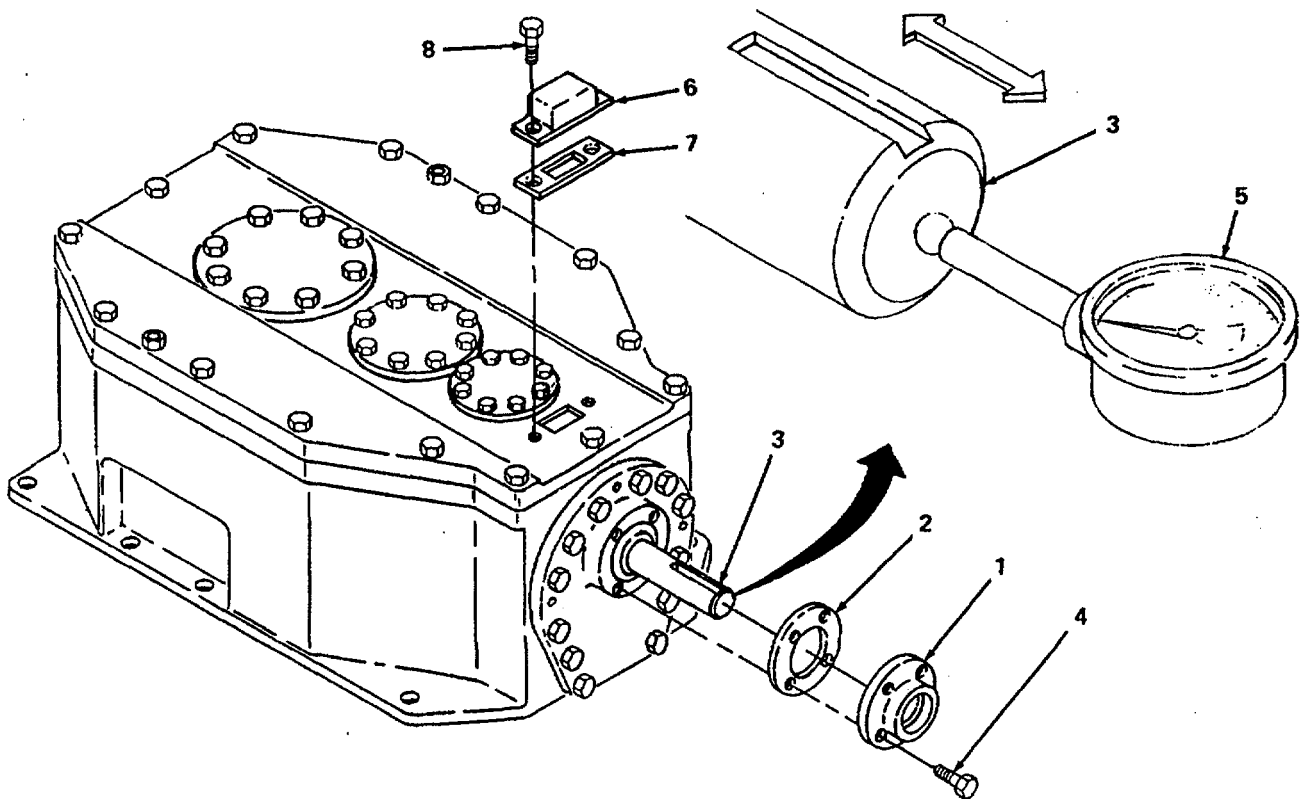

Figure 6-27. Adjusting Axial Float of High Speed Shaft.
- (12) Adjust axial float of high speed shaft assembly.
- Position oil seal cage (1, figure 6-27) with new shims (2) on high speed shaft (3), and install four screws (4). Tighten screws to torque specified in Appendix G.
- Position dial indicator (5) against end of high speed shaft (3) and measure axial float by alternately pulling and pushing on shaft.
- Vary quantity or thicknesses of shims (2) under oil seal cage (1) until axial float is between .005 and .008 inch.
- After final adjustment, reposition oil seal cage (1) with shims (2) and install four screws (4). Tighten screws to torque specified in Appendix G.
- (13) Install oil distributor.
- If oil distributor was removed during overhaul, position oil distributor (6) with new gasket (7) on main cover.
- Lubricate and install x screws (8) and tighten screws to torque specified in Appendix G.